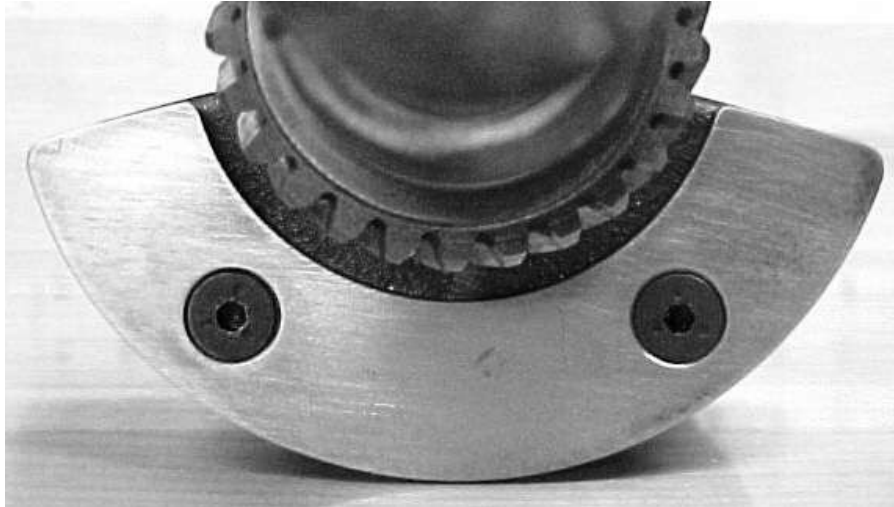

Figure 5
6. **VERY IMPORTANT!** Apply Loctite #271 high strength thread locking compound (the red stuff) liberally to full length of threaded holes. Insert and tighten both screws to approximately 80-100 inch-pounds torque. Failure to properly execute this step can lead to potential engine destruction! Your finished crankshaft should appear as shown in Figure 5. Allow several hours for Loctite to cure before installing crankshaft.